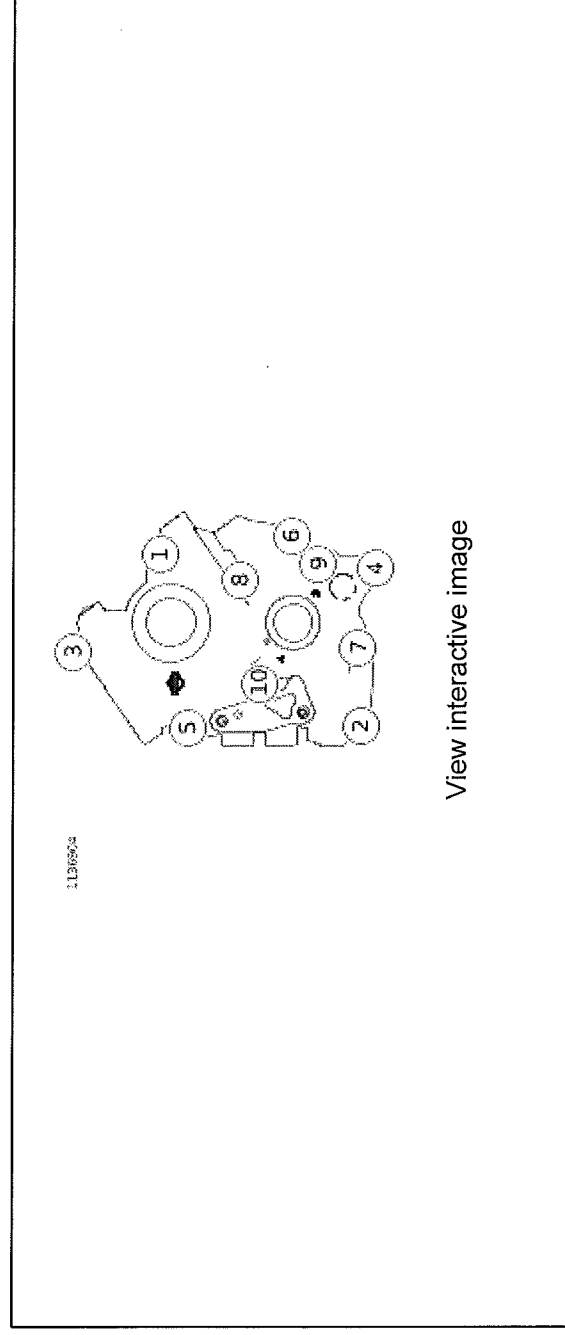

Figure 1. Cam Support Plate Tightening Sequence
2. **Refer to Figure 1.** Follow modified tightening sequence.